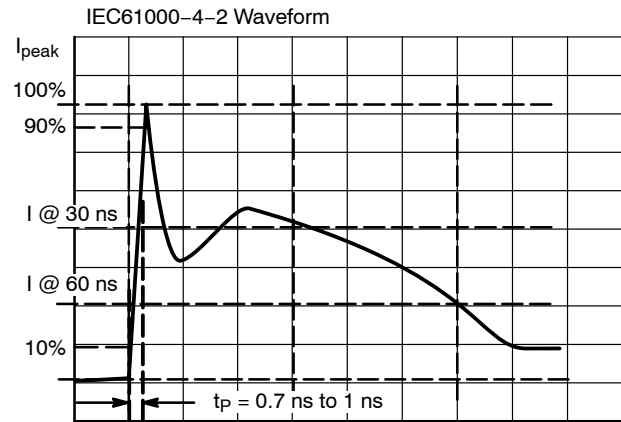

Figure 7. IEC61000-4-2 Spec
- For test procedure see Figure 7 and application note AND8307/D.